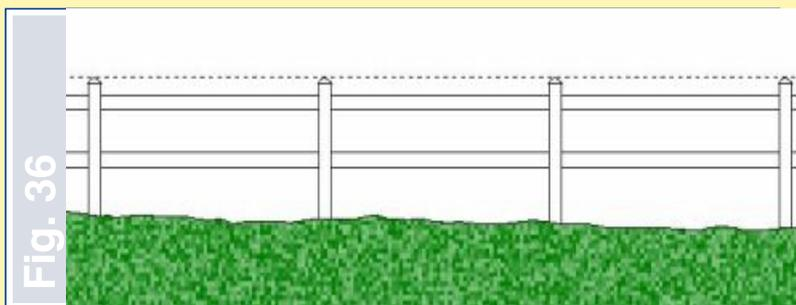

Fig. 36
- Fig. 36. View on ready fencing sections